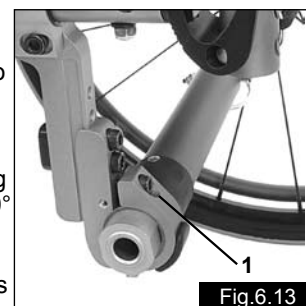

Fig.6.13
To adjust rear seat height, slacken and remove the 4 Torx screws (1) (2 each side) and the thread washer (2), which secures the clamp (3) for the camber tubes to the axle plates (4). Adjust the two camber tube clamps (3) to the required height and replace the 4 Torx screws. Before tightening the screws, please follow the instructions for setting the toe-in/toe-out to zero (See Fig.6.13 - 6.15). Tighten the screws to 7 Nm.
Adjusting Wheel Alignment (Fig.6.13 - 6.15)